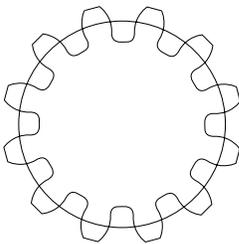

Figure 2.2D, A gear with 12 teeth and a 1" Pitch Diameter is 12 Pitch.
**Example:** A gear with a 1" pitch diameter and 12 teeth is a 12-pitch gear. (See Figure 2.2D)